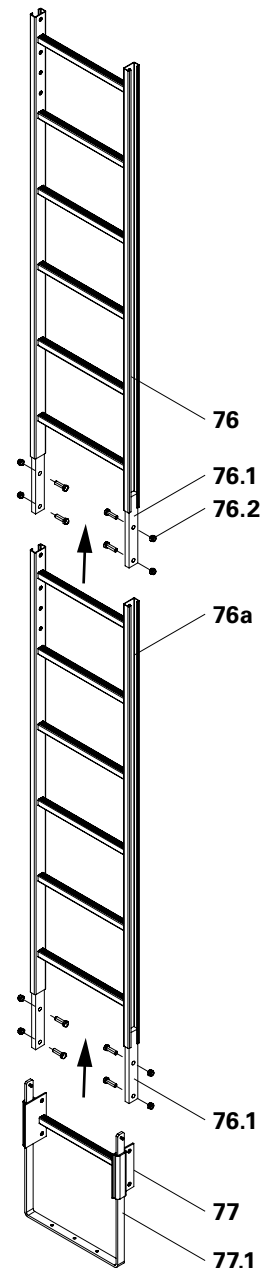

Fig. A9.10
3. Install the Ladder Base ga (**77**) in the same manner with 4 bolts M12 x 40 and nuts onto the connecting piece of the lower ladder. (Fig. A9.10)